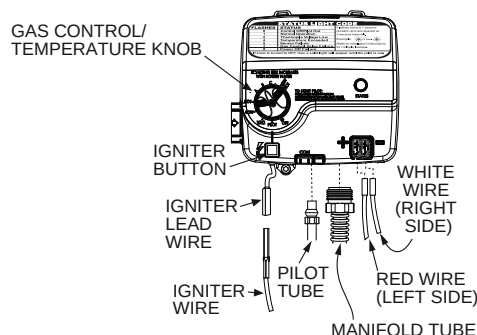
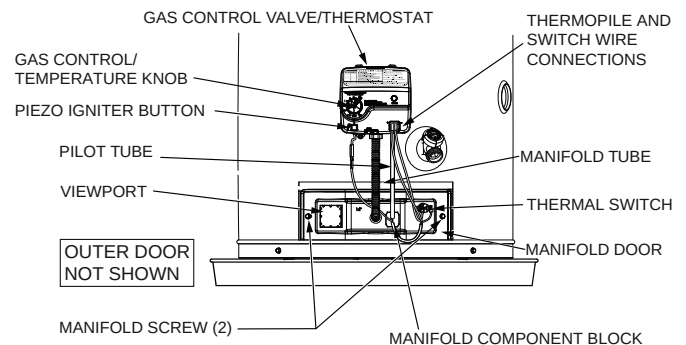

FIGURE 22.
FIGURE 23.
1. Turn the gas control/temperature knob to the "OFF" position (Figure 22).
5. Disconnect the following from the gas control valve/thermostat: pilot tube (7/16" wrench), igniter wire (from the igniter lead wire), and manifold tube (3/4" wrench). See Figure 22.
6. Use needle nose pliers to disconnect the white (-) thermopile wire from the gas control valve/thermostat (Figure 22). Next, disconnect both red thermal switch wires from the thermal switch on the manifold door (Figure 23).
8. Remove the screws (1/4" nut driver) securing the manifold/burner assembly to the combustion chamber. See Figure 23.
2. Inspect the viewport for damage and replace as required (Figure 23).
6. Reconnect the manifold tube (3/4" wrench) and pilot tube (7/16" wrench) to the gas control valve/thermostat (Figure 22). Do not cross-thread or apply any thread sealant to the fittings.
7. Connect the white (-) thermopile wire to the gas control valve/thermostat, then connect the red thermal switch wires to the thermal switch on the manifold door. (Figure 23).
8. Reconnect the igniter wire (Figure 22).
4. Disconnect the igniter wire from the igniter lead wire. Use needle nose pliers to disconnect the red (+) and white (-) thermopile wires. Disconnect the pilot tube (7/16" wrench) and manifold tube (3/4" wrench) at the gas control valve/thermostat (Figure 22). NOTE: L.P. Gas systems use reverse (left-hand) threads on the manifold tube.